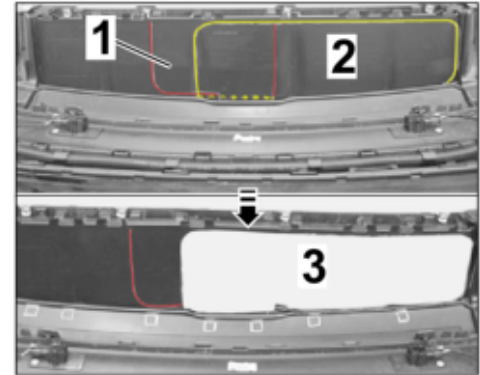

Figure 6
1.9.2 Mark the cut-out for the ball hitch (removable – USA) at the impression on the inside of the rear apron ( ⇒ *Figure 6 -top-*).
1.9.3 Carefully make the cut-out along the marking ( ⇒ *Figure 6 -bottom-*).